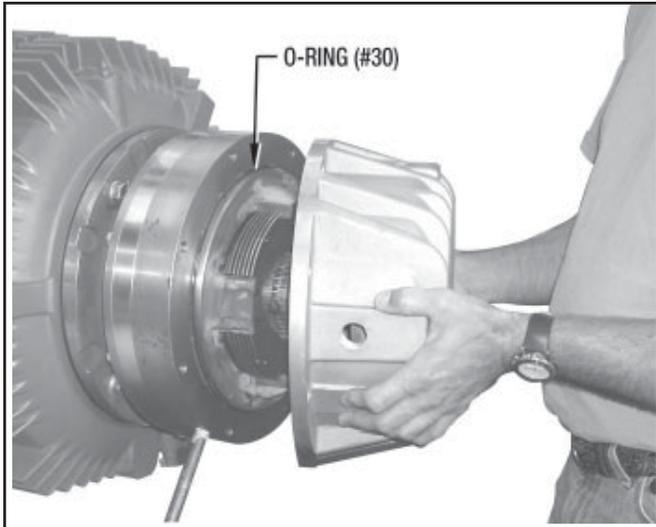

Figure 3.9
1. Lubricate O-ring (#30) with a light coating of Vaseline or equivalent and place it on the Piston Assembly. (See Figure 3.9).
2. Place the End Housing (#9) onto the Piston Housing Assembly. (See Figure 3.9)